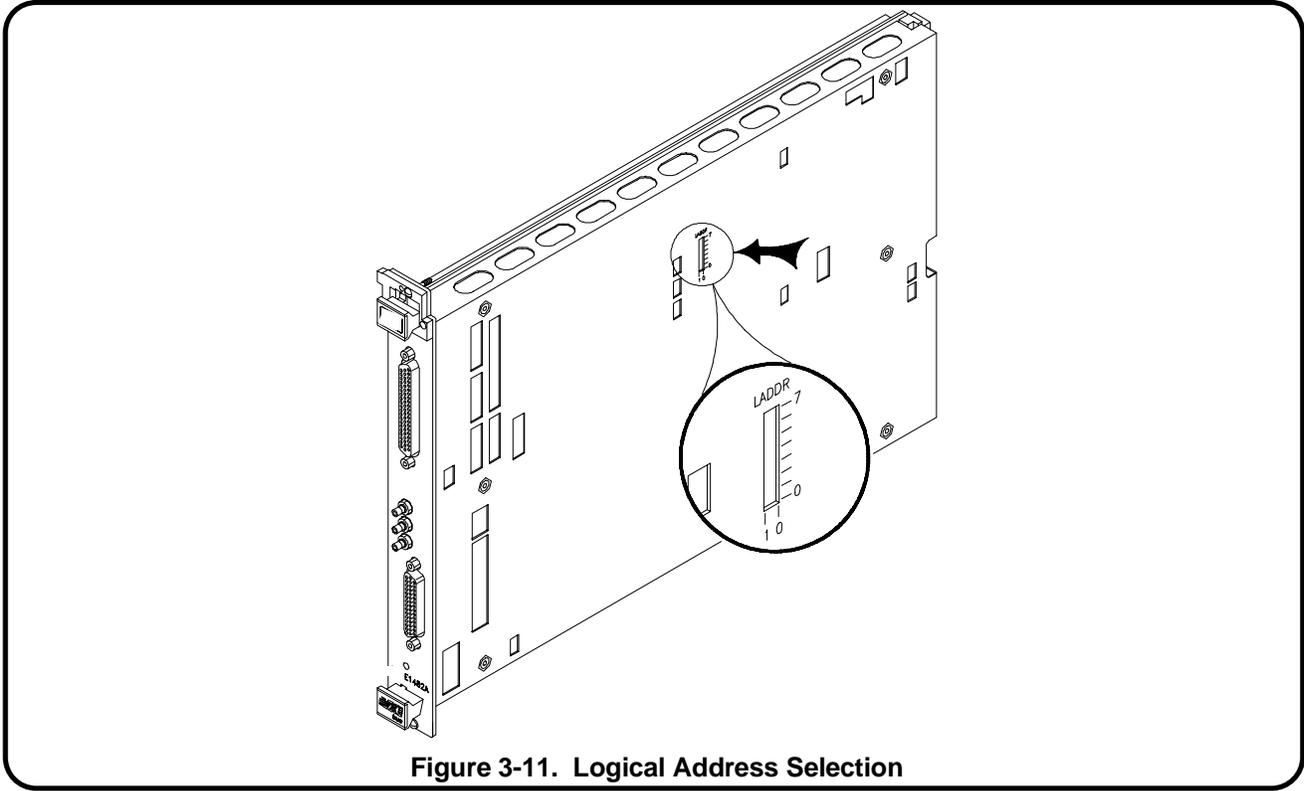

Figure 3-11. Logical Address Selection
1. Locate the logical address switch, an 8-bit DIP switch at U64. See Figure 3-11.